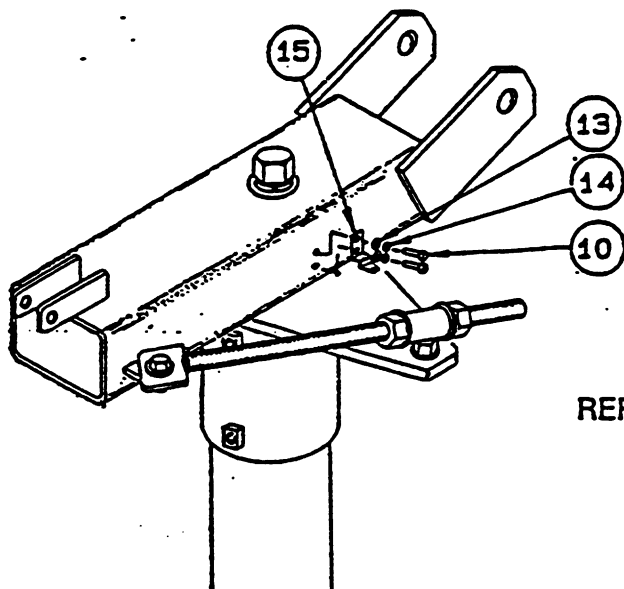

FIGURE 2.1-6
- 6) Place the reflector support tube between the tabs on the front of the positioner and secure with the 1-8 x 6" long bolt, flatwasher, lockwasher and nut. place the tab of the elevation adjustment rod to the tab on the reflector support tube, attach using 1/2-13 x 1.5" bolt, flatwasher, .575" long spacer, flatwasher, lockwasher and nut. Place the elevation adjustment block between the tabs on the rear of the positioner, assemble with 1/2-13 x 2.00" long bolt, flatwasher, 1.60" spacer, flatwasher, lockwasher, and nut. Reference Figure 2.1-6.